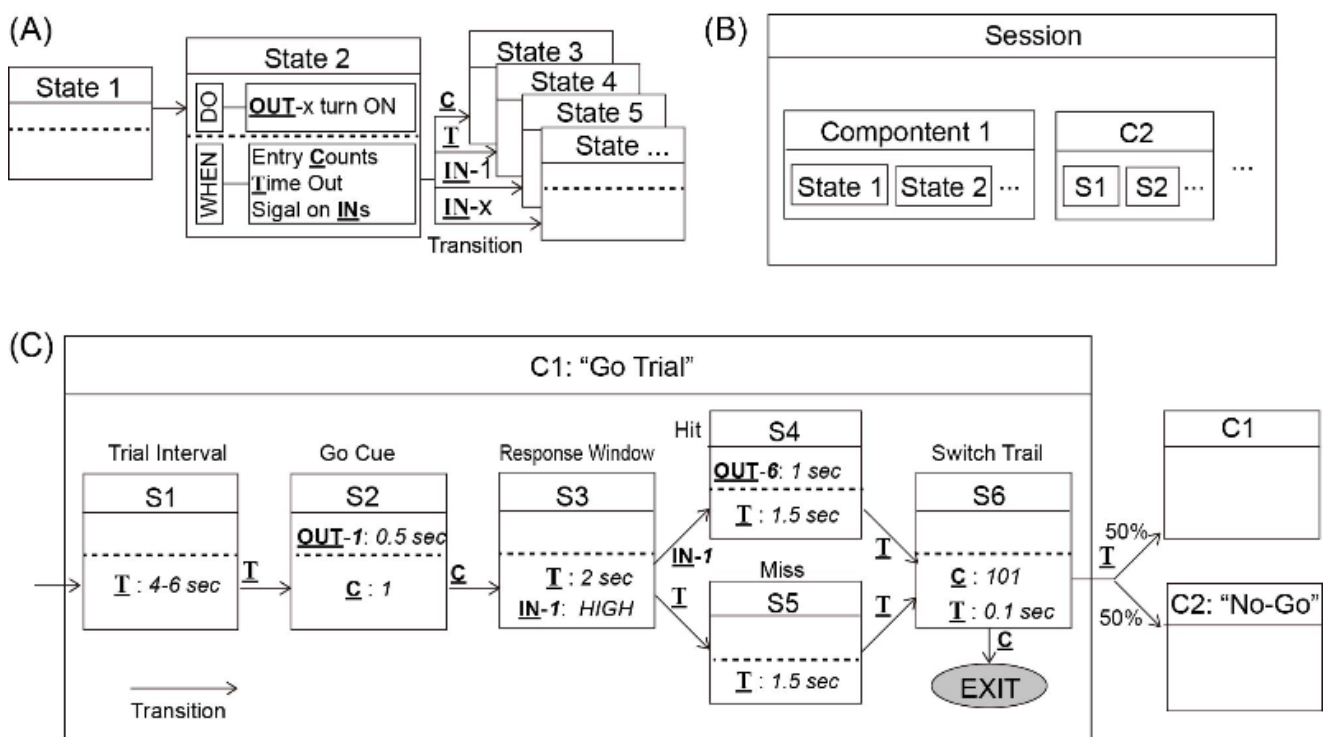

Figure 2
Figure 2 Diagram of State Notation Pattern utilized by ArControl. (A) The State has a *do-function* to deliver stimulus, and *when-function* to master transitions cross States. (B) Component (abbr. C) and Session structures are the primary and the secondary collection of States (abbr. S) . (C) Illustration of a Go Trial in the Go/No-Go task